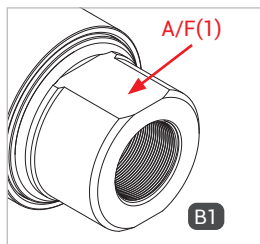

Figure 1
- ▶ When mounting media line, hold an open-ended wrench against the wrench size A/F(1) (Figure 1).
- ▶ Screw the 'B1' media inlet pressure-tight to the port for the media line (Figure 1).